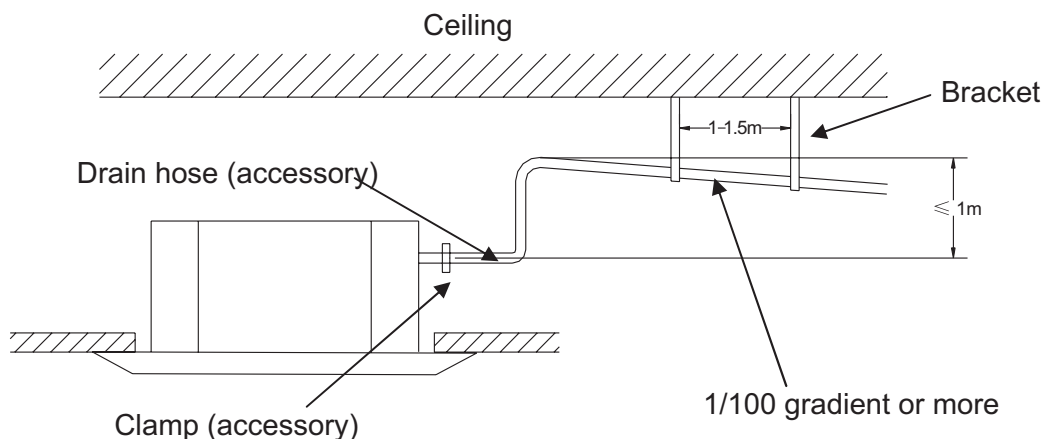

Fig.13
1. Do not raise the drain pipe higher than 1m, or else there will be water leak risk.(Fig.13)
2. Make sure the drain pipe has a downward gradient (no less than 1/100) and there are no water traps (Fig.13).
3. To hold the drain pipe, space bracket every 1 to 1.5m.(Fig.13)